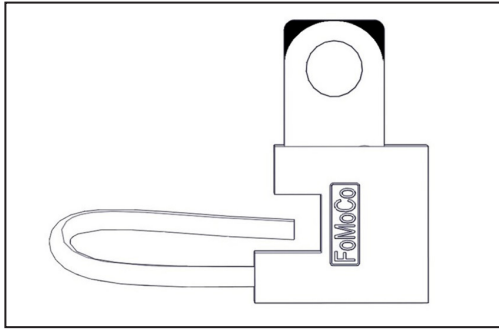

Figure 10 — Modify RIS mount
- Remove the corners of the RIS mount (Figure 10).